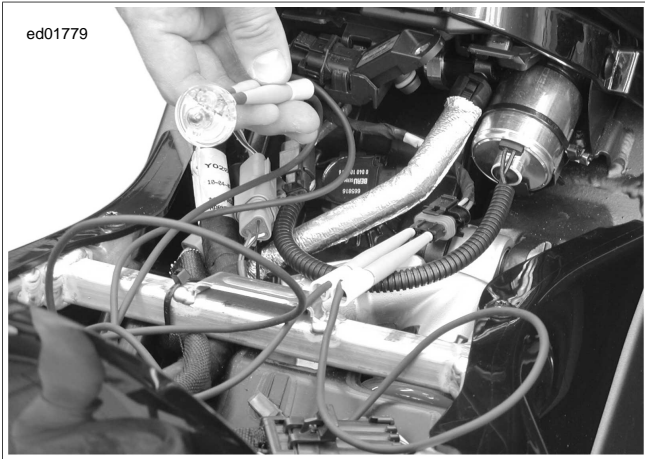

Figure 6-19. Ignition Coil Circuit Test
- See Figure 6-19. Cranking the engine with a test lamp in place of the ignition coil may cause DTCs to set. This